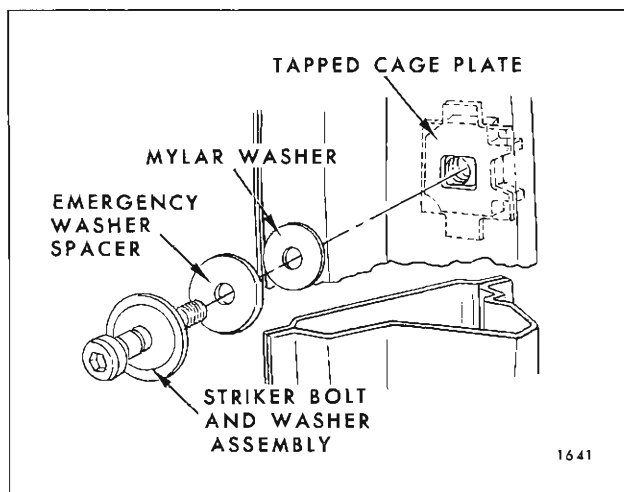

Fig. 5D8—Door Lock Striker
2. Insert a 5/16" wrench into hex-head fitting in head of striker bolt and remove striker (Fig. 5D8).
3. To install, reverse removal procedure. Make certain striker is positioned within pencil marks and that paint protecting mylar washer is installed. (Fig. 5D8).